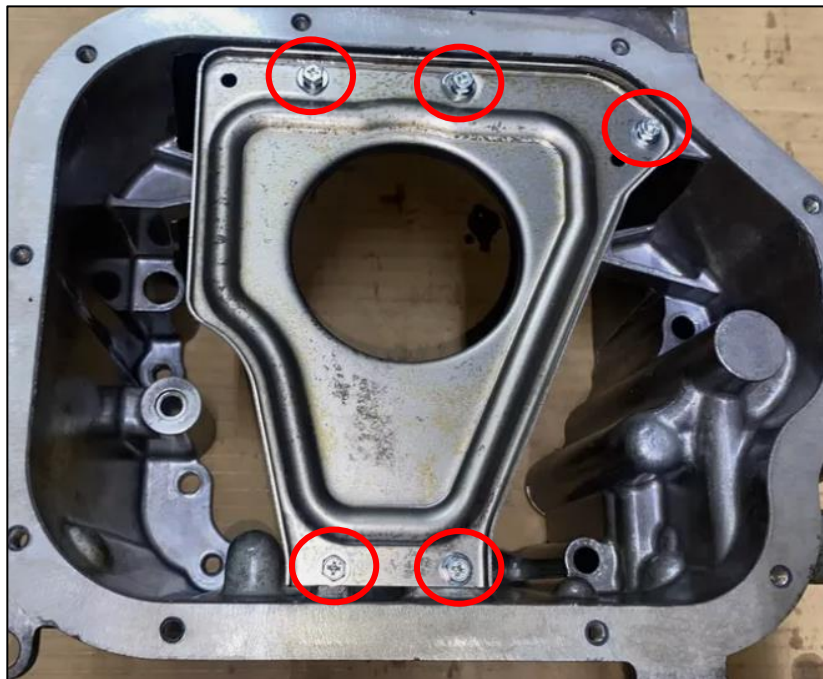

Figure 4
- Some DE Engines will have an Internal Baffle from the Factory. If your engine is equipped with one, remove the (5) five bolts securing the baffle, and remove the baffle. If your engine does not have the Internal Baffle, skip to *Step 8.* *Figure 4.*